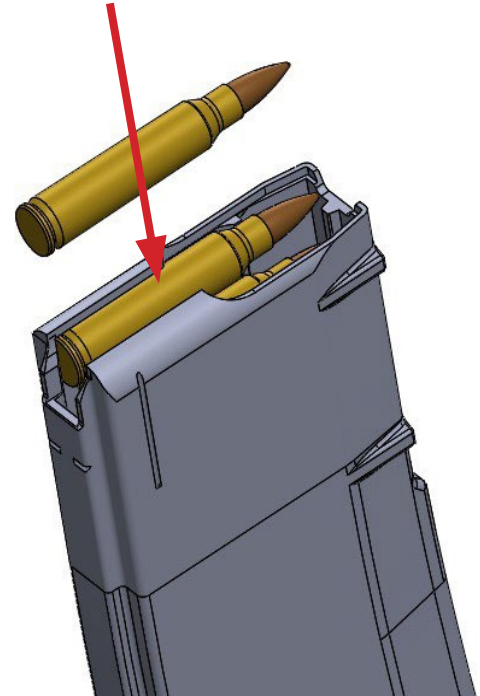

Figure 11: Loading Rounds Into Magazine
2. Insert cartridges into the magazine by pressing the cartridge (parallel to the magazine) downwards into the magazine. Ensure the face of the cartridge is at the rear-most position inside the magazine. (Figure 11)
4. Ensuring the WLVRN is on "Safe" and pointed in a safe direction, insert the loaded magazine (bullets forward, Figure 11) into the magazine well until it is seated with an audible